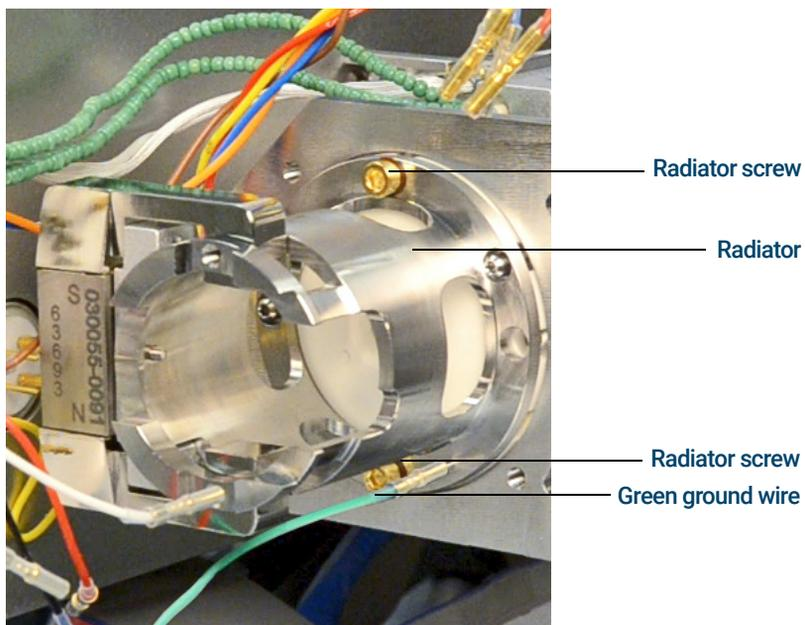

Figure 86. CI/EI XTR Source radiator
- 2 Disconnect the green ground wire from the radiator. (See **Figure 86**.)